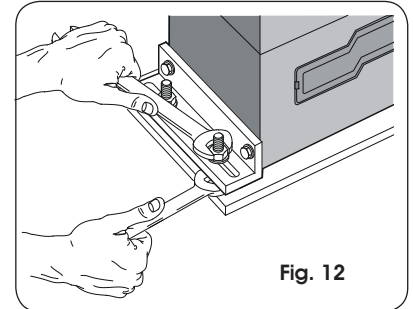

Fig. 12
5. Secure the operator to the foundation plate, tighten nuts as shown in Fig. 12.